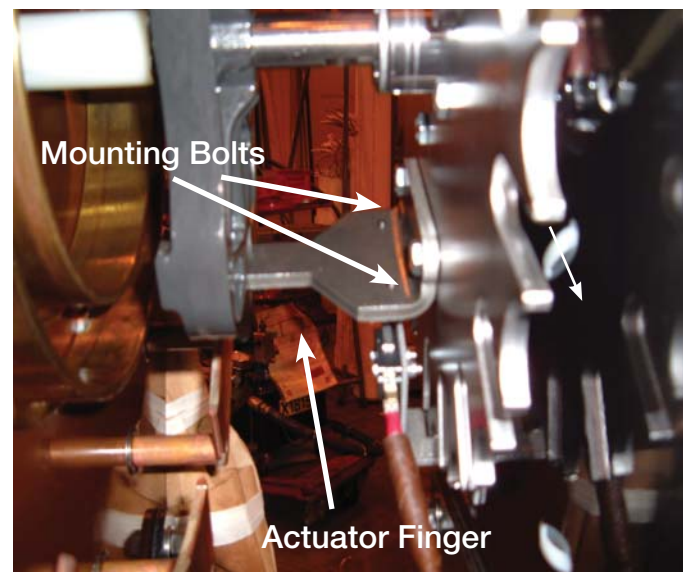

Figure 3.
7. Remove the two bolts that mount the actuator finger with a 7/16 inch socket wrench. Remove the actuator finger (refer to Figure 3). Save the bolts for re-assembly.